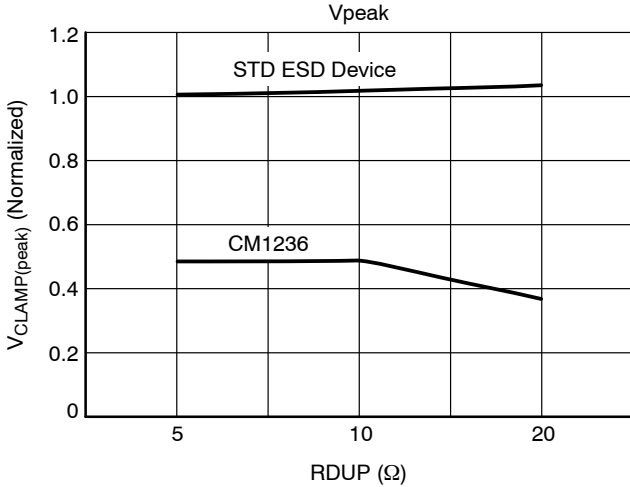
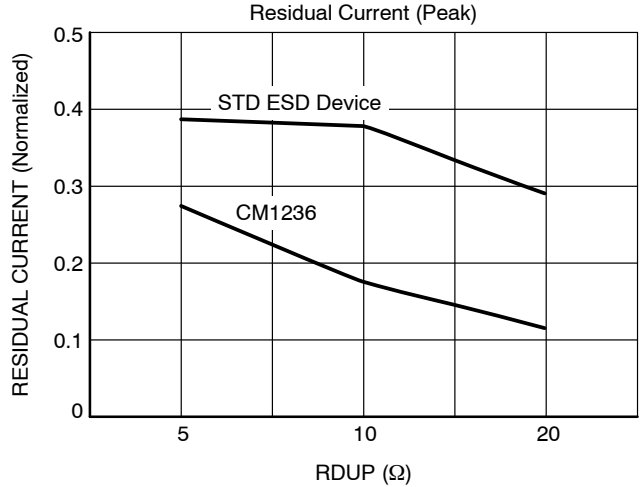
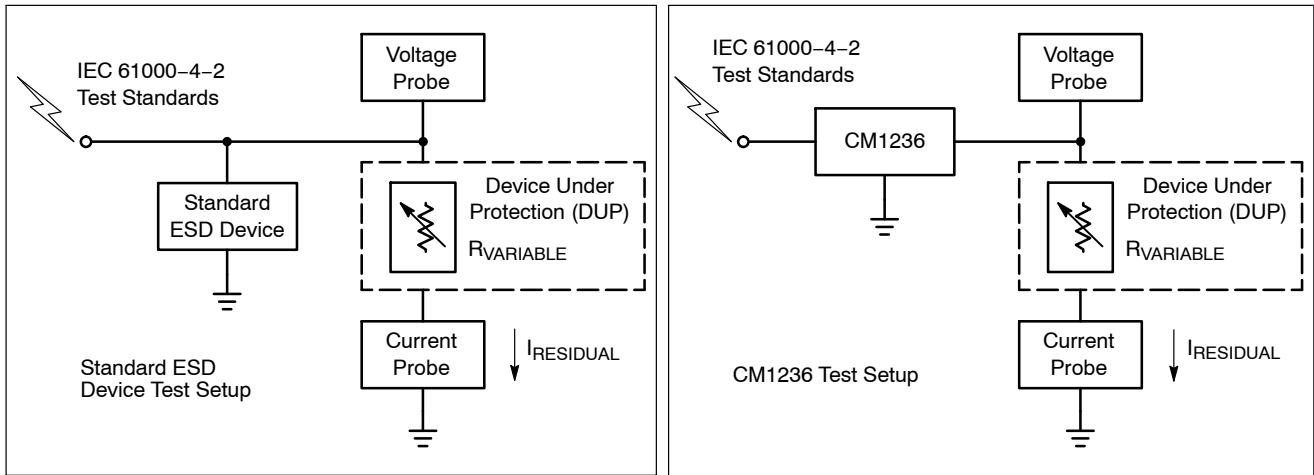

Figure 5. V_{CLAMP} vs. RDUP* (ASIC) – 8 kV Contract Strike
Figure 6. I_{RESIDUAL} vs. RDUP* (ASIC) – 8 kV Contract Strike
Figure 7. Test Setups: Standard Device (Left) and CM1236 (Right)
2. Impedance values for deviation from continuous 100 Ω uncompensated differential microstrip, with typical layout as measured via TDR with 200 ps effective incident risetime. See Figure 7.
Figure 5 shows that the CM1236 (*PicoGuardXS* ESD protector) lowers the peak voltage and clamping voltage by 45% across a wide range of loading conditions in comparison to a standard ESD protection device. Figure 6 also indicates that the DUP/ASIC protected by the CM1236 dissipates less energy than a standard ESD protection device. This data was derived using the test setups shown in Figure 7.
*RDUP is the emulated Dynamic Resistance (load) of the Device Under Protection (DUP). See Figure 7.